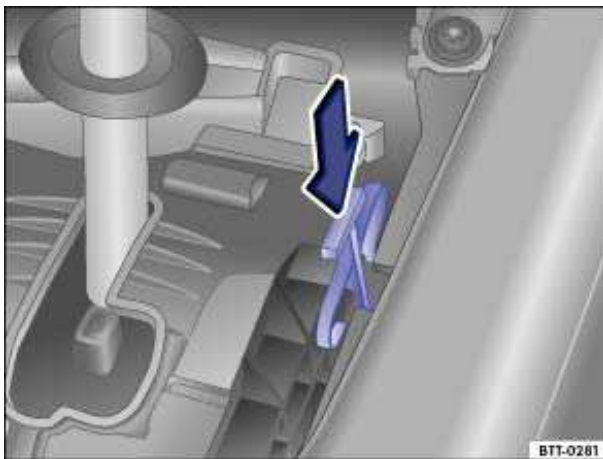

Fig. 168 Releasing the selector lever lock.
- Push the release lever ⇒ fig. 168 in the direction of the arrow and hold it in this position.